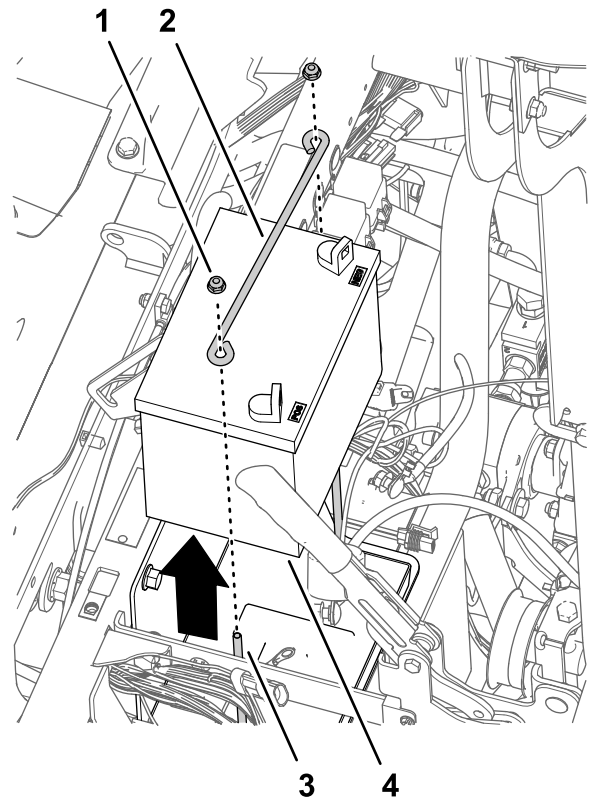

Figure 171
4. Install the cover that you removed in step 2 of Removing the Steering Wheel \(page 75\) onto the steering wheel (Figure 171).
1. Remove the 2 flange locknuts and hold-down rod from the 2 J-bolts that secure the battery to the battery bracket of the machine (Figure 171).
2. Remove the battery from the machine (Figure 171).